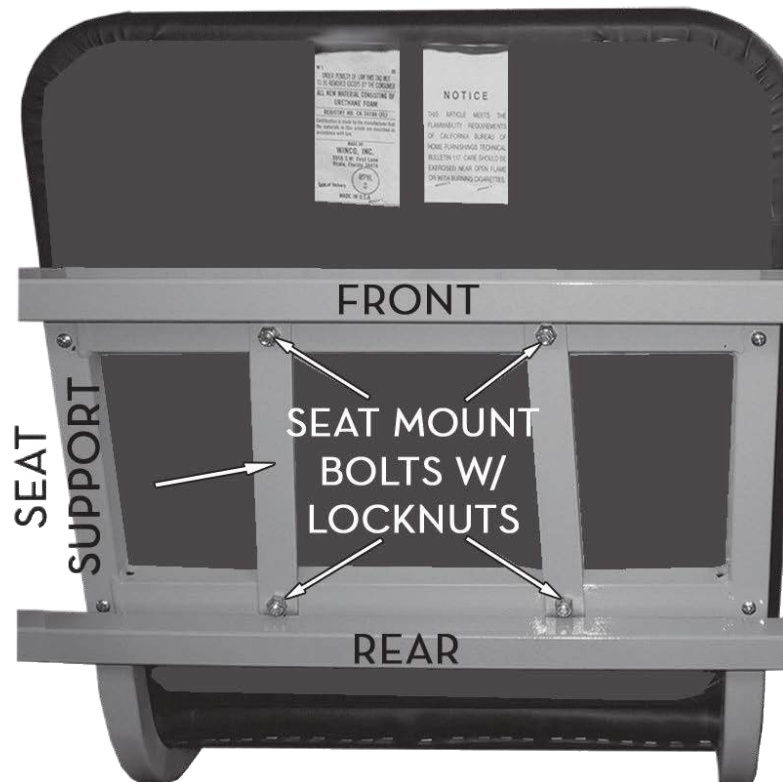

FIG 1
2. Align the screws on bottom of the **Seat Assembly**, with the **Seat Support holes**. (Hole spacing of Seat Supports will be narrower toward front of Chair). **Seat** can only be properly installed facing one direction. **Be sure that all (4) Seat Screws go completely through the Seat Support straps on chair frame. (FIG 1)**
3. Install four (4) **lock nuts** to the screws on the **Seat Assembly** and completely tighten with $\frac{7}{16}$ " wrench. **(FIG 1)**
1. If the **Arm Assembly** has not yet been installed, insert it into the **Receiving Tube** on the **Seat Frame Assembly**. (FIG. 1) *This applies to any style arm assembly.
- * **ALWAYS** make sure that the slot in the Arm Assembly faces the Knob installed on the receiving tube. (FIG. 1)
2. Insert the 1/8" Hex Key into the underlying access hole as shown and turn the screw located inside clockwise until the screw is firmly pressed against the Arm's Hinge Plate. (FIG. 1)
1. Remove the cabinet from the frame (**FIG 1**) Use **CAUTION** to avoid personal injury or damaging the product.
1. To remove drawer, open drawer until the drawer stops. Using your finger, locate the drawer stop tab mounted to the bottom of the drawer top. Press the tab against the drawer top and slide the drawer past the tab. (FIG 1)